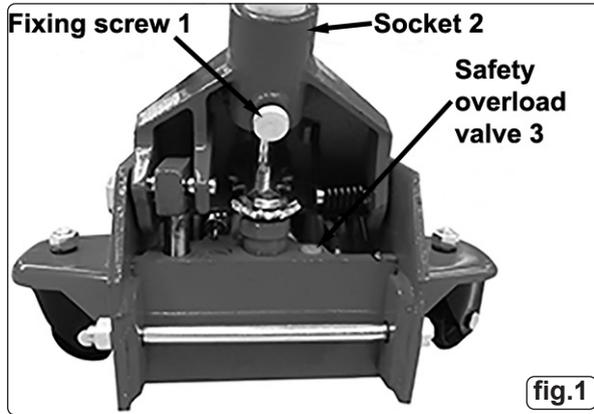

fig.1
- 4.1.1. Assemble handle by sliding the two parts together and rotating until the locking pin clicks into position. Partially unscrew socket locking screw (fig 1 - 1) until handle slides fully into socket (fig 1 - 2). Tighten the socket locking screw to lock handle in place.
6.9. After use, hold the centre column (fig 1 - 1) firmly when removing the locking pin (fig 1 - 3). Failure to do so will allow the center column to fall freely through the main center tube with the risk of personal injury.
- × **DO NOT** touch the safety overload valve (fig 1 - 3).